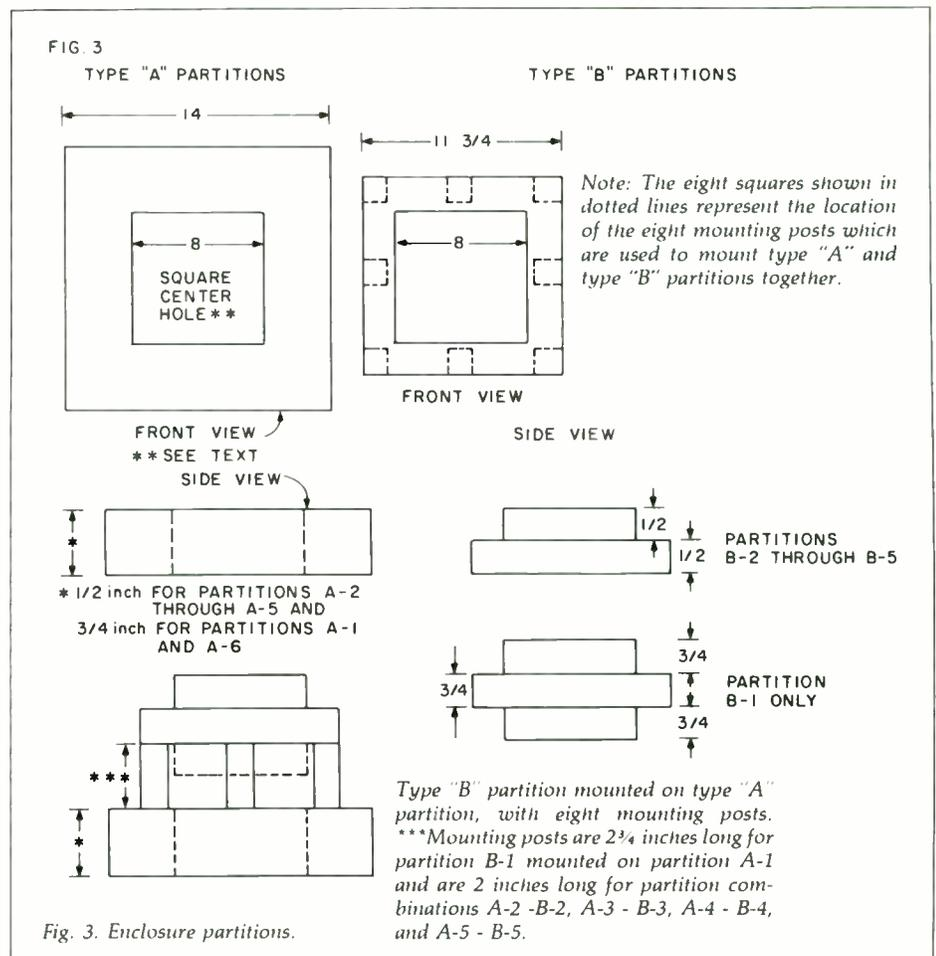

Fig. 3. Enclosure partitions.
In Fig. 3 we see how the partitions mount together to form partition assemblies. Note that:
8. Refer to Fig. 3. Glue the 8" square center sections cut out of partitions A-1 and A-6 firmly to the top and bottom of partition B-1, making sure you center each section on the partition. Glue the center sections from partitions A-2 through A-5 to the tops of partitions B-2 through B-5.
9. Still following Fig. 3, mount the B partitions on the A partitions with the mounting posts, remembering that the longer set of posts is for assembly A-1/B-1. Use 1/4" screws and plenty of liquid glue.